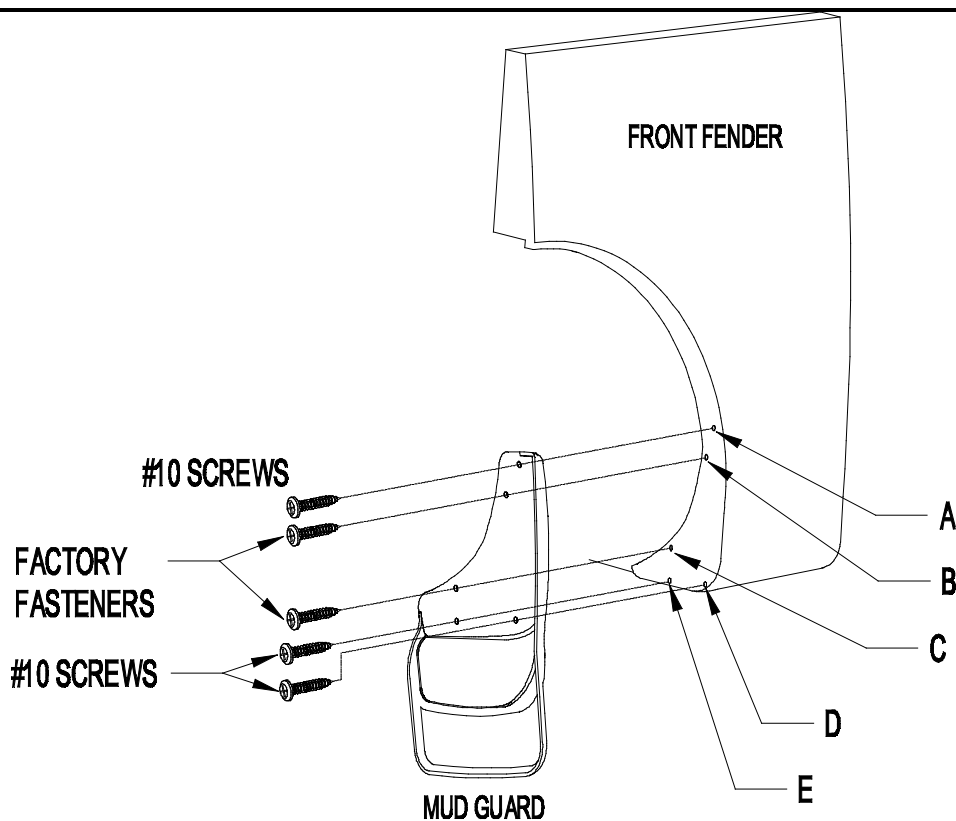

Figure 1
2. Remove existing factory fasteners from locations B and C (Figure 1).
4. Using mud guard as a template, mark, center punch, and drill 1/8" holes at locations A, D, and E (Figure 1).